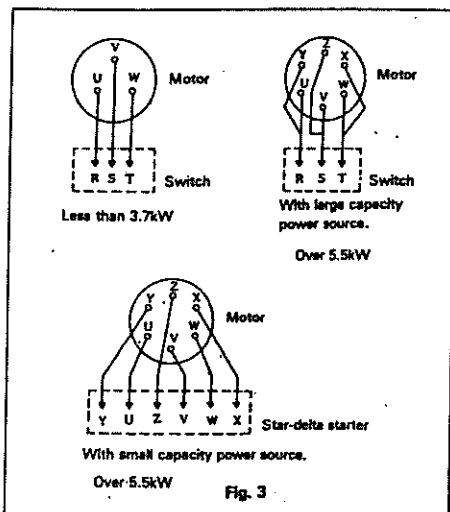

Fig. 3
- (1) Refer to Fig. 3 for correct wiring. It is important that wiring be correct and that motor is properly grounded.
- (2) Check the following points before turning on operation switch.
- (3) Terminal voltage in motors bearing the EBARA nameplate may be within $\pm 10\%$ of the rated voltage. Exceeding this range will lead to breakdown.
- (4) Overloading the motor beyond the prescribed limit will reduce its efficiency, is not economical and will eventually lead to motor malfunction. We recommend that a protective motor relay be installed to prevent burnout caused by overloading.